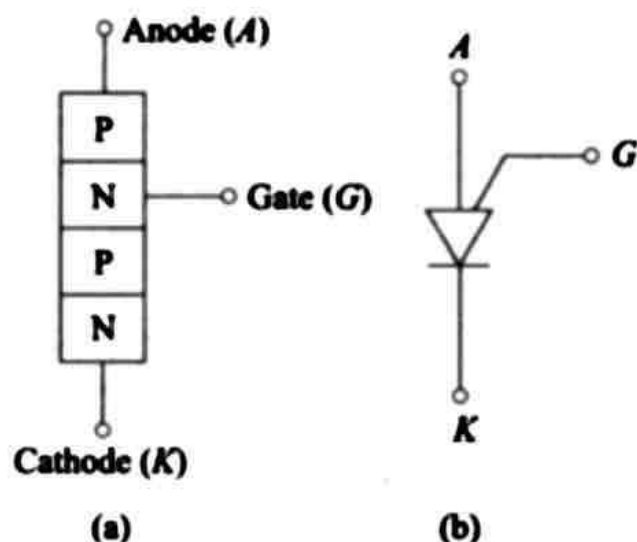

Fig. 3.25 (a) PUT structure (b) circuit symbol
Figure 3.25 shows the *PNPN* structure and the circuit symbol for the PUT. The anode (A) and cathode (K) are the same as for any *PNPN* device. The gate (G) is connected to the *N*-region next to the anode. Thus, the anode and gate constitute a *P-N* junction. It is this *P-N* junction which controls the "on" and "off" states of the PUT. The gate is usually positively biased relative to the cathode by a certain amount, V_g . When the anode voltage is less than V_g , the anode-gate junction is reverse-biased and the *PNPN* device is in the "off" state, acting as an open-switch between anode and cathode. When the anode voltage exceeds V_g by about 0.5 V, the anode gate junction conducts, causing the *PNPN* device to turn "on" in the same manner as does forward biasing the gate cathode junction of an SCR. In the "on" state, the PUT acts like any *PNPN* device between anode and cathode (low resistance and $V_{AK} \approx 1\text{ V}$). The PUT is also referred to as a complementary SCR (CSCR).